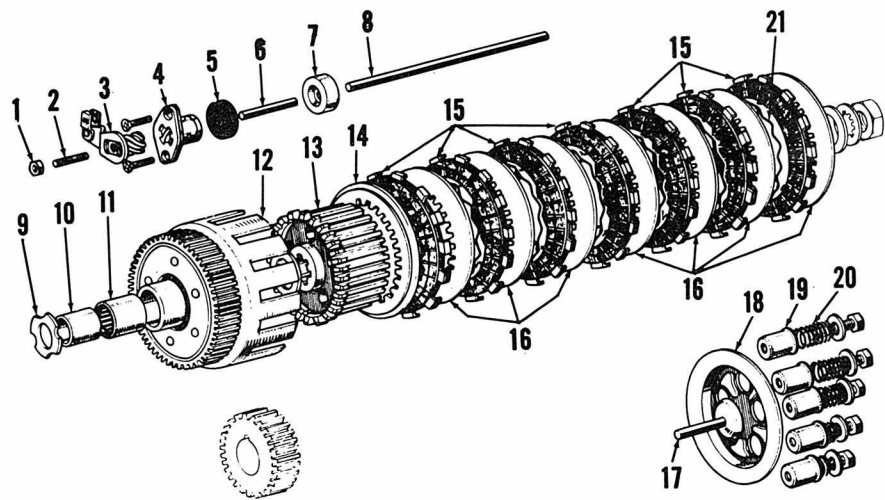

Fig. K6-13—Exploded view of clutch assembly used. Expander rings (21) are installed with friction discs (15) between steel plates (16).
**CLUTCH.** The wet type multi-disc unit is operated by a series of push rods running through the transmission drive shaft. Clutch is disassembled by removing five bolts that secure clutch springs (20—Fig. K6-13) and removing pressure plate (18).